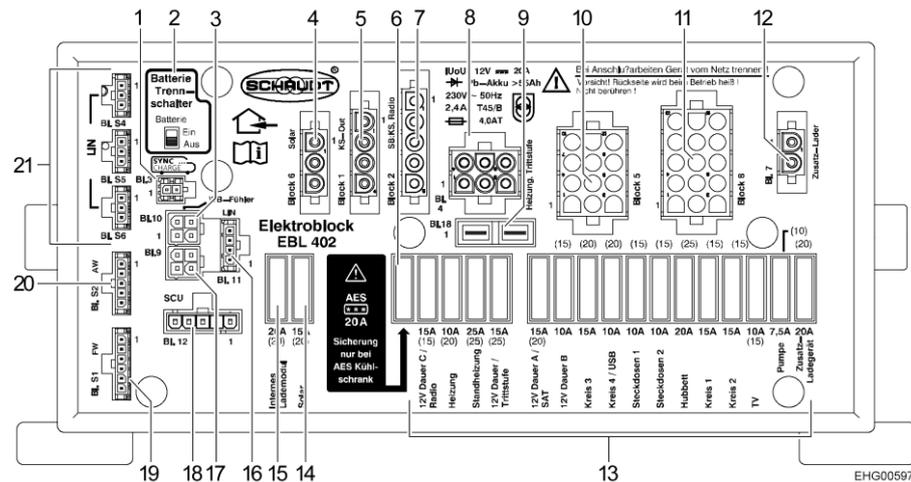

Fig. 91 Transformer/rectifier
- Move the battery cut-off switch (Fig. 91,2) to the "Aus" (Off) position on the transformer/rectifier. The battery cut-off switch disconnects all appliances supplied by the transformer/rectifier from the living area battery.
- Push the battery cut-off switch (Fig. 91,2) to the "Ein" (On) position on the transformer/rectifier.